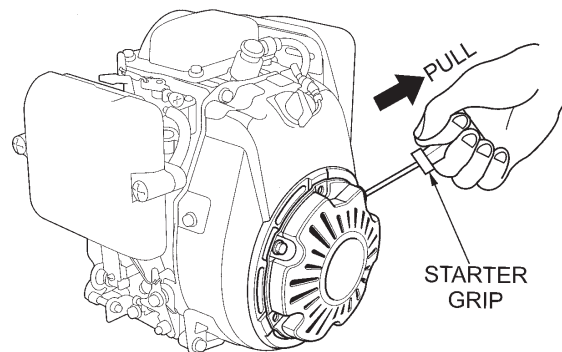

Figure 8. Recoil Starter
4. Grip the recoil starter (Figure 8) handle and pull it until you feel a slight resistance. Then pull sharply and quickly. Return the recoil starter handle to the starter case before releasing.